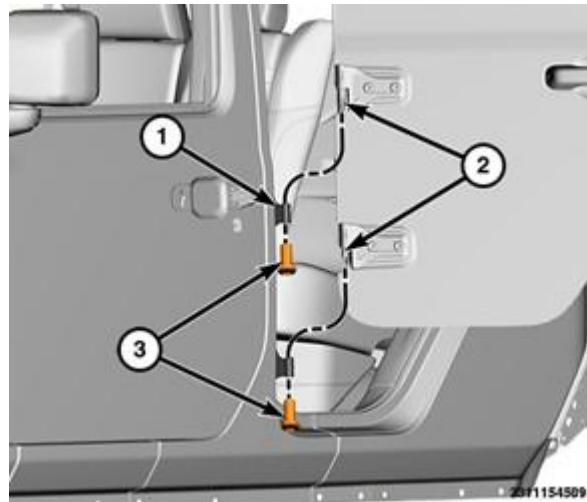

**Figure 27 – Hinge Pin Nuts**
23. Remove the nuts (3) and lift the door up off hinges (1) and remove (Figure 27).
45. Set the door into place on the hinges and install the door hinge pivot nuts. Tighten the nuts to 6N·m (53 in. lbs.) (Figure 27).